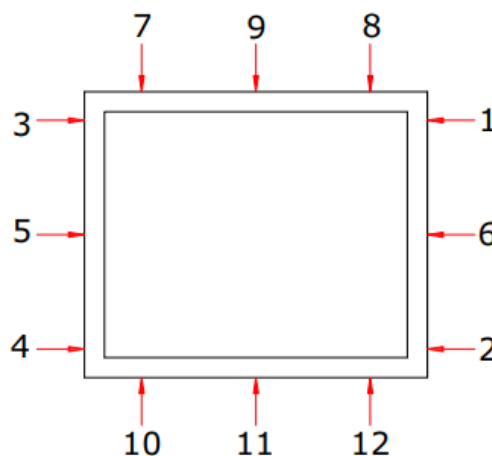

Figure 6 Sequence of the fixing points for fixed glazing
5. Level the right side of the frame and drill the first fixing point through frame. Correct sequence of the fixing points is shown in the figure 6.
6. Fix the frame with remaining fixing points (Figure 6). Support blocks must be added next to every fixing point. Tighten the screws.